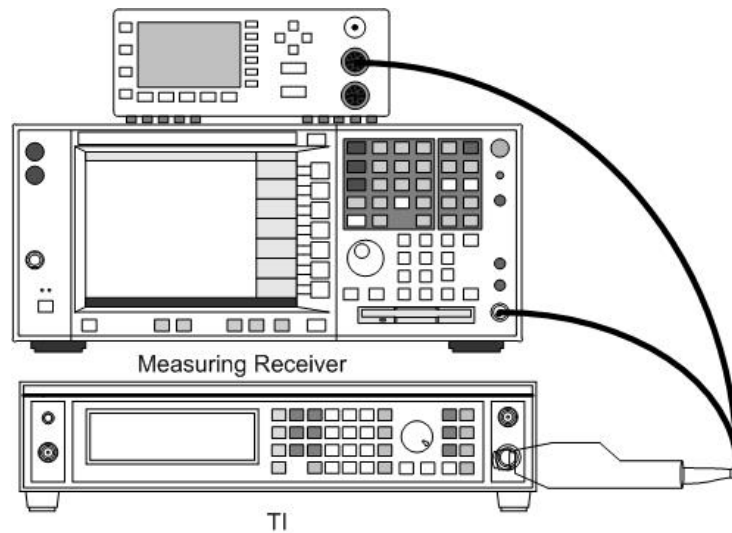

Figure 2. Basic measuring receiver hook-up.
(15) Press TI **CARR ON/OFF** (output off), disable function generator output disconnect set-up and reconnect equipment as shown in figure 2.
(16) Press TI keys as listed in (a) through (f) below:
(17) Configure measuring receiver to measure FM deviation with a 50 Hz HP filter and a 15 kHz LP filter.
(18) Measure FM deviation using measuring receiver. Measuring receiver will indicate FM deviation between 96 kHz and 104 kHz. Measure AF distortion. AF distortion will be less than 3.0%. If indications are not within limits specified in table 8 perform **b** below.
(19) Measure FM deviation and AF distortion for remaining carrier frequencies listed in table 8. Measuring receiver will indicate within limits specified in table 8. If indications are not within limits specified in table 8, perform **b** below.